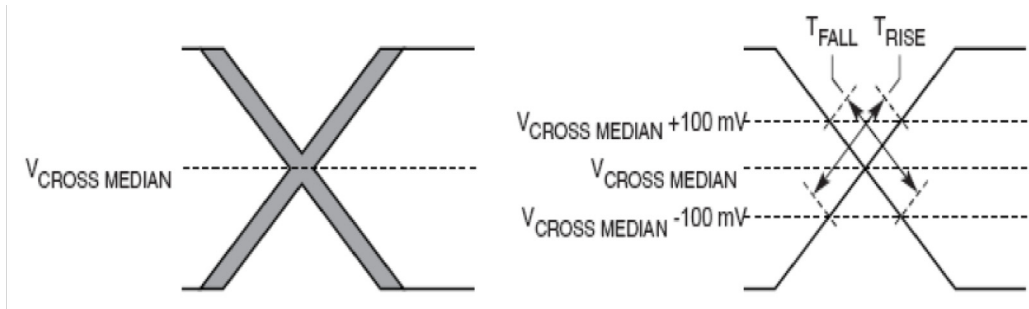

Figure 42. Single-Ended Measurement Points for Rise and Fall Time Matching
- Matching applies to rising edge for SD_REF_CLK n and falling edge rate for $\overline{\text{SD_REF_CLK}}_n$. It is measured using a 200 mV window centered on the median cross point where SD_REF_CLK n rising meets $\overline{\text{SD_REF_CLK}}_n$ falling. The median cross point is used to calculate the voltage thresholds that the oscilloscope uses for the edge rate calculations. The rise edge rate of SD_REF_CLK n should be compared to the fall edge rate of $\overline{\text{SD_REF_CLK}}_n$, the maximum allowed difference should not exceed 20% of the slowest edge rate. See Figure 42.